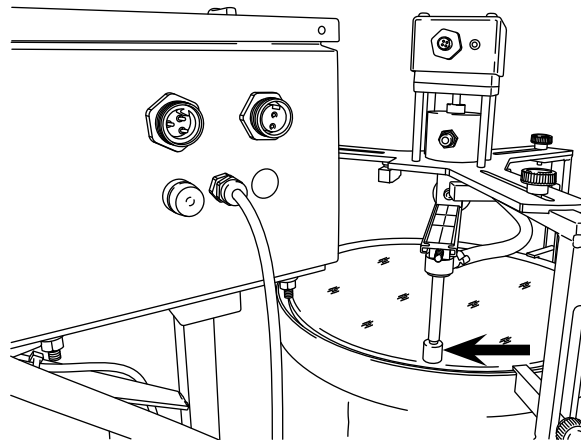

Figure 15
3. Manually rotate the drive disc counterclockwise (CCW) until the nozzle and puck are as close to the outer edge of the DPF substrate as possible without touching the canister inner wall, flange wall, or until the puck is fully rested in the filter substrate. (Figure 15)
4. Manually rotate the arm one full revolution clockwise (CW) to verify it is clear of any obstructions.